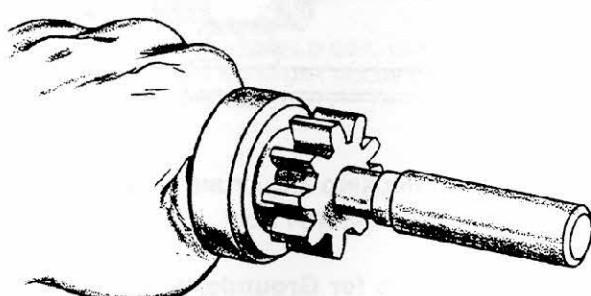

FIGURE 32. TOOL FOR DRIVING PINION STOPPER
**5. Solenoid Starter Only:** Remove the ring after driving the pinion stopper toward the pinion gear, using a cylindrical tool (Figure 32). Remove the overrunning clutch and the pinion stopper at the same time.